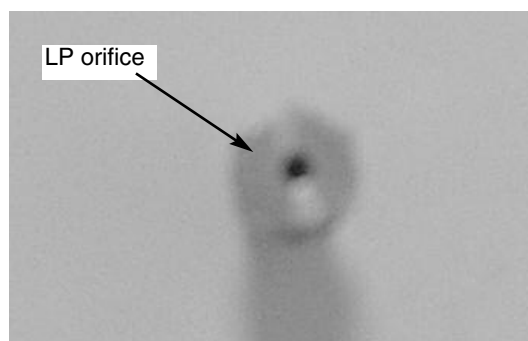

Fig 9
16. Install the new LP orifice (See Fig. 9)